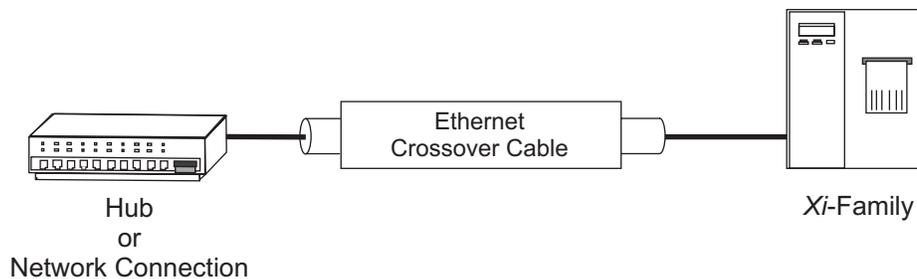

Figure 6-27. Crossover Cable Environment
- If you are connecting your printer to a hub or network connection, complete the callout illustration step in Figure 6-27 below.